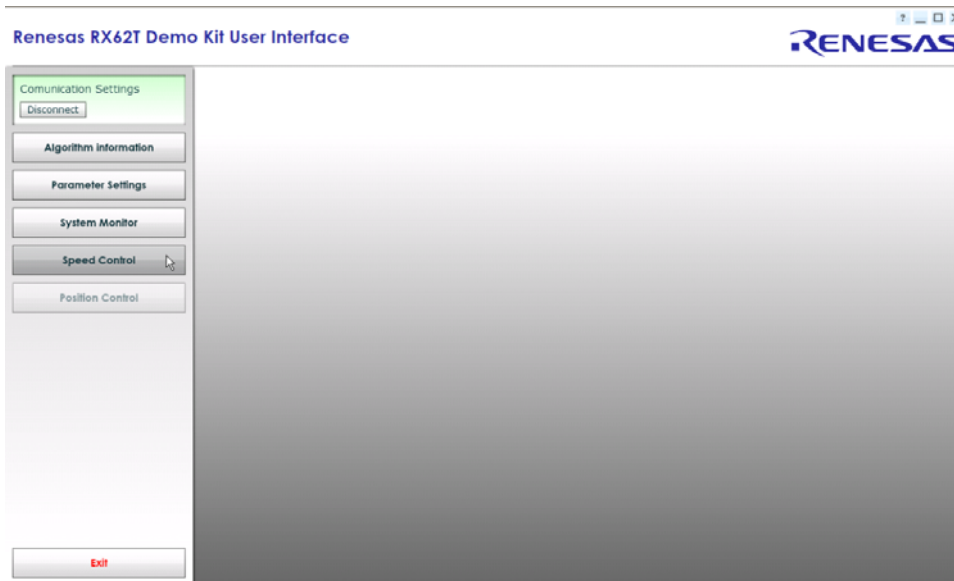

Figure 10 PC-GUI Step 9
- The "Communication Settings" area will change colour and "Connect" button will change to "Disconnect" as shown in Figure 10.